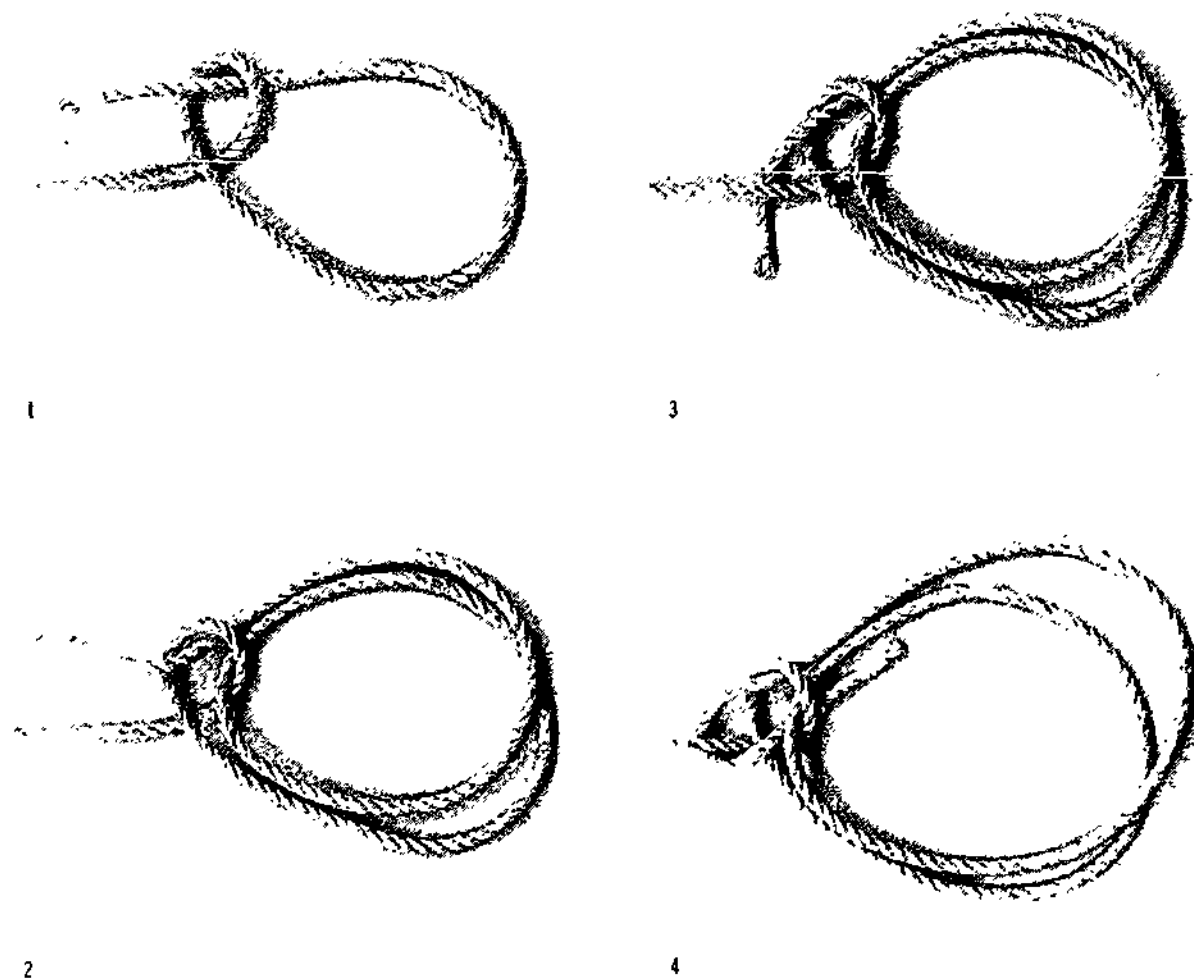

Figure 7-11. Tying a Double Bowline Knot
- 2 The double bowline knot (or French bowline) provides a secure, two-loop sling that can serve as a seat for an operator (by passing a small, notched board through the loops) or as spreaders to sling a load. Figure 7-11 illustrates the steps in tying a double bowline.